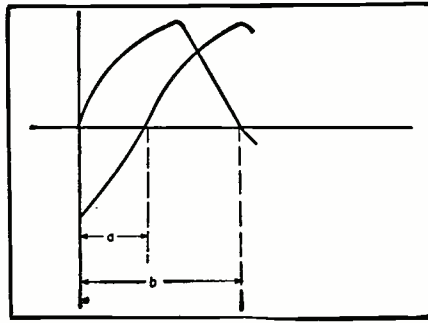

Fig. 7. The a and b distances used in calculating the phase shift of a waveform.
Fig. 11. (A) Distortion in table model radio illustrated by the difference in two waves. (B) Phase shift as in wave of Fig. 7. (C) Square-wave obtained from electronic switch.
Another very important use of the electronic switch is that of finding phase shift. The phase shift may be found in an LC circuit or through one or more stages of an amplifier or receiver, or any other type of circuit. For the purpose of illustration of phase shift, we shall use a circuit as in Fig. 9. Before impressing the input signals A and B to the electronic switch, superimpose the traces with the positioning control. Apply the signal to the inputs and bring the waves to equal amplitude with the gain controls. The waveform should be that of Fig. 7 or Fig. 11B. Measure the a and b distance, shown in Fig. 7, with any convenient scale, as long as both a and b distances are measured with the same scale. Most oscilloscopes have a celluloid scale that may be used. If the phase angle is indicated by θ , then:
Fig. 7. Over-all view of antenna tuner. A 300-ohm twin-lead is used to make the connection from the antenna relay to the receiver terminals as well as the connections between transmitter and tuner. The five coils cover 80, 40, 20, 15, and 10 meters.